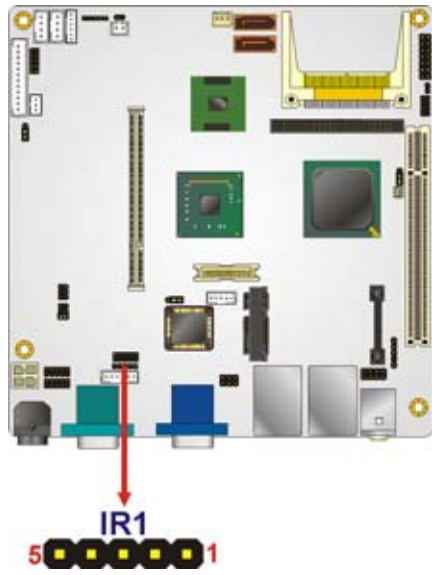

Figure 4-8: Infrared Connector Pinout Locations
- CN Location:** See **Figure 4-8**